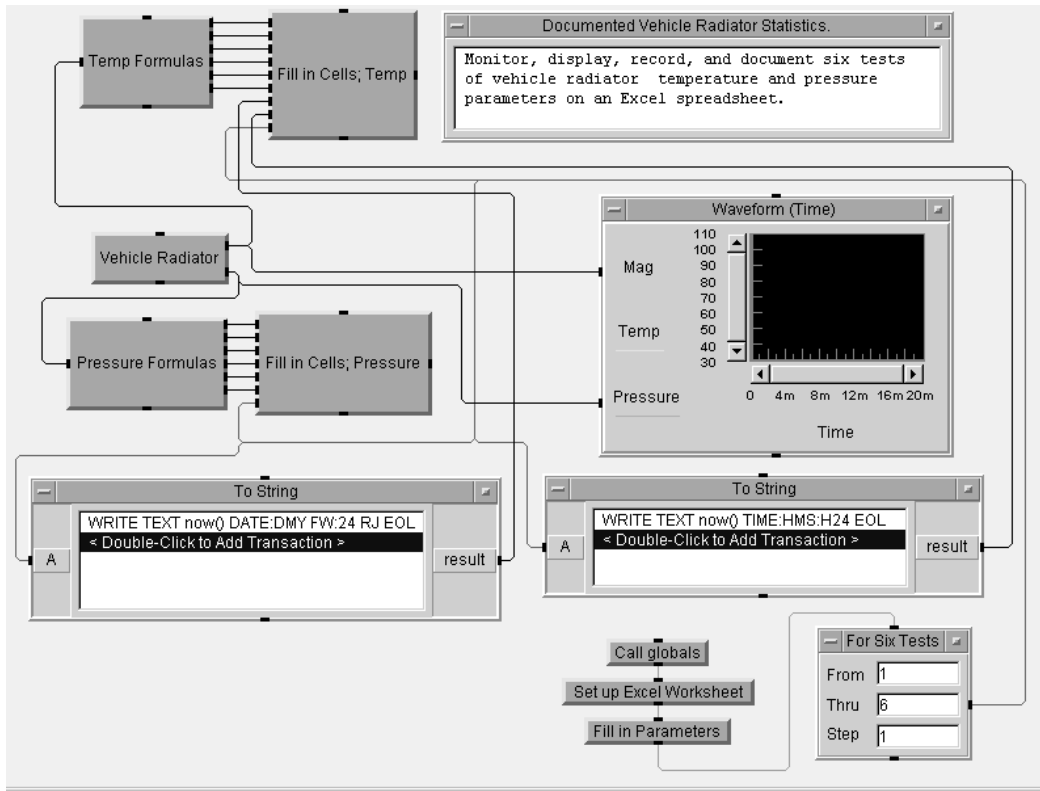

Figure 10.6. Lab 10-3 program before running
18. Save this program; it should look like the one shown in Figure 10.6.